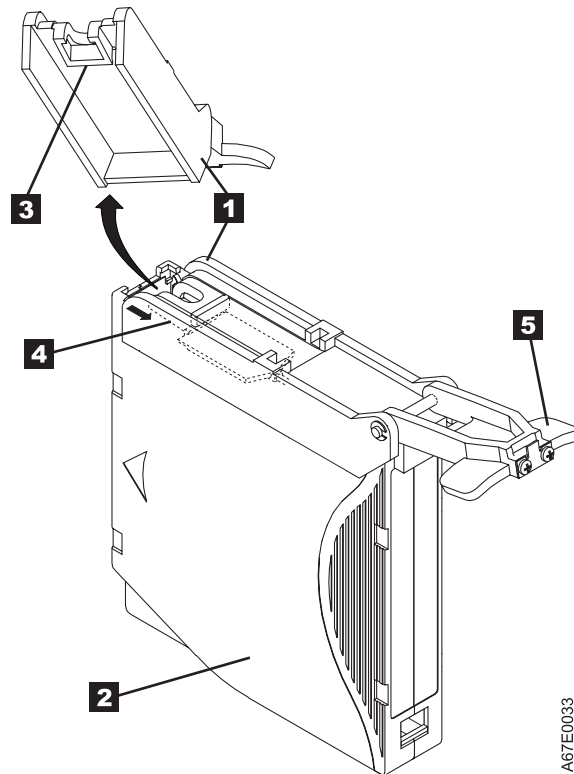

Figure 48. Attaching the leader pin attach tool to an LTO tape cartridge. To hold the cartridge door open, hook the tool into the door and pull the tool back.
1. Attach the leader pin attach tool (**1** in Figure 48 on page 167) to the cartridge **2** so that the tool's hook **3** latches into the cartridge's door **4**. Pull the tool back to hold the door open, then slide the tool onto the cartridge.